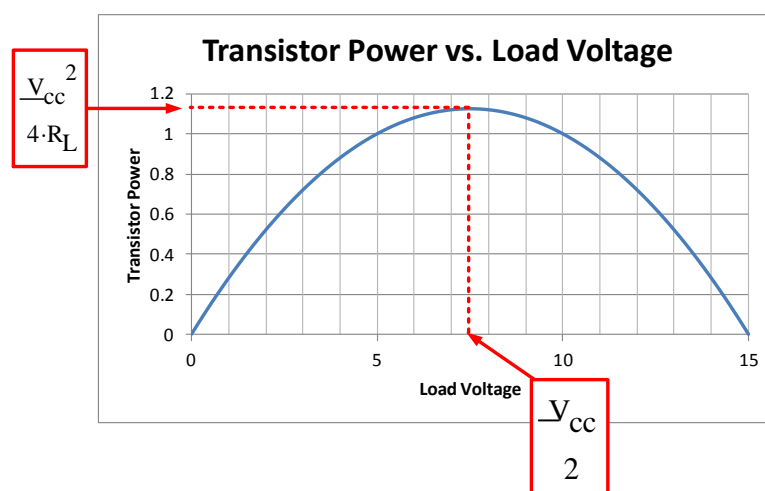

Figure 3: dc Power vs. Output Signal
The transistor maximum power rating is a key criterion for selecting a discrete bipolar transistor. The maximum dc power is dissipated in the transistor when the output voltage is one half the power supply voltage (see Figure 3). In this example the maximum power is 1.125W (see Equation (1)), so 2W was used as a search criterion for the transistor.